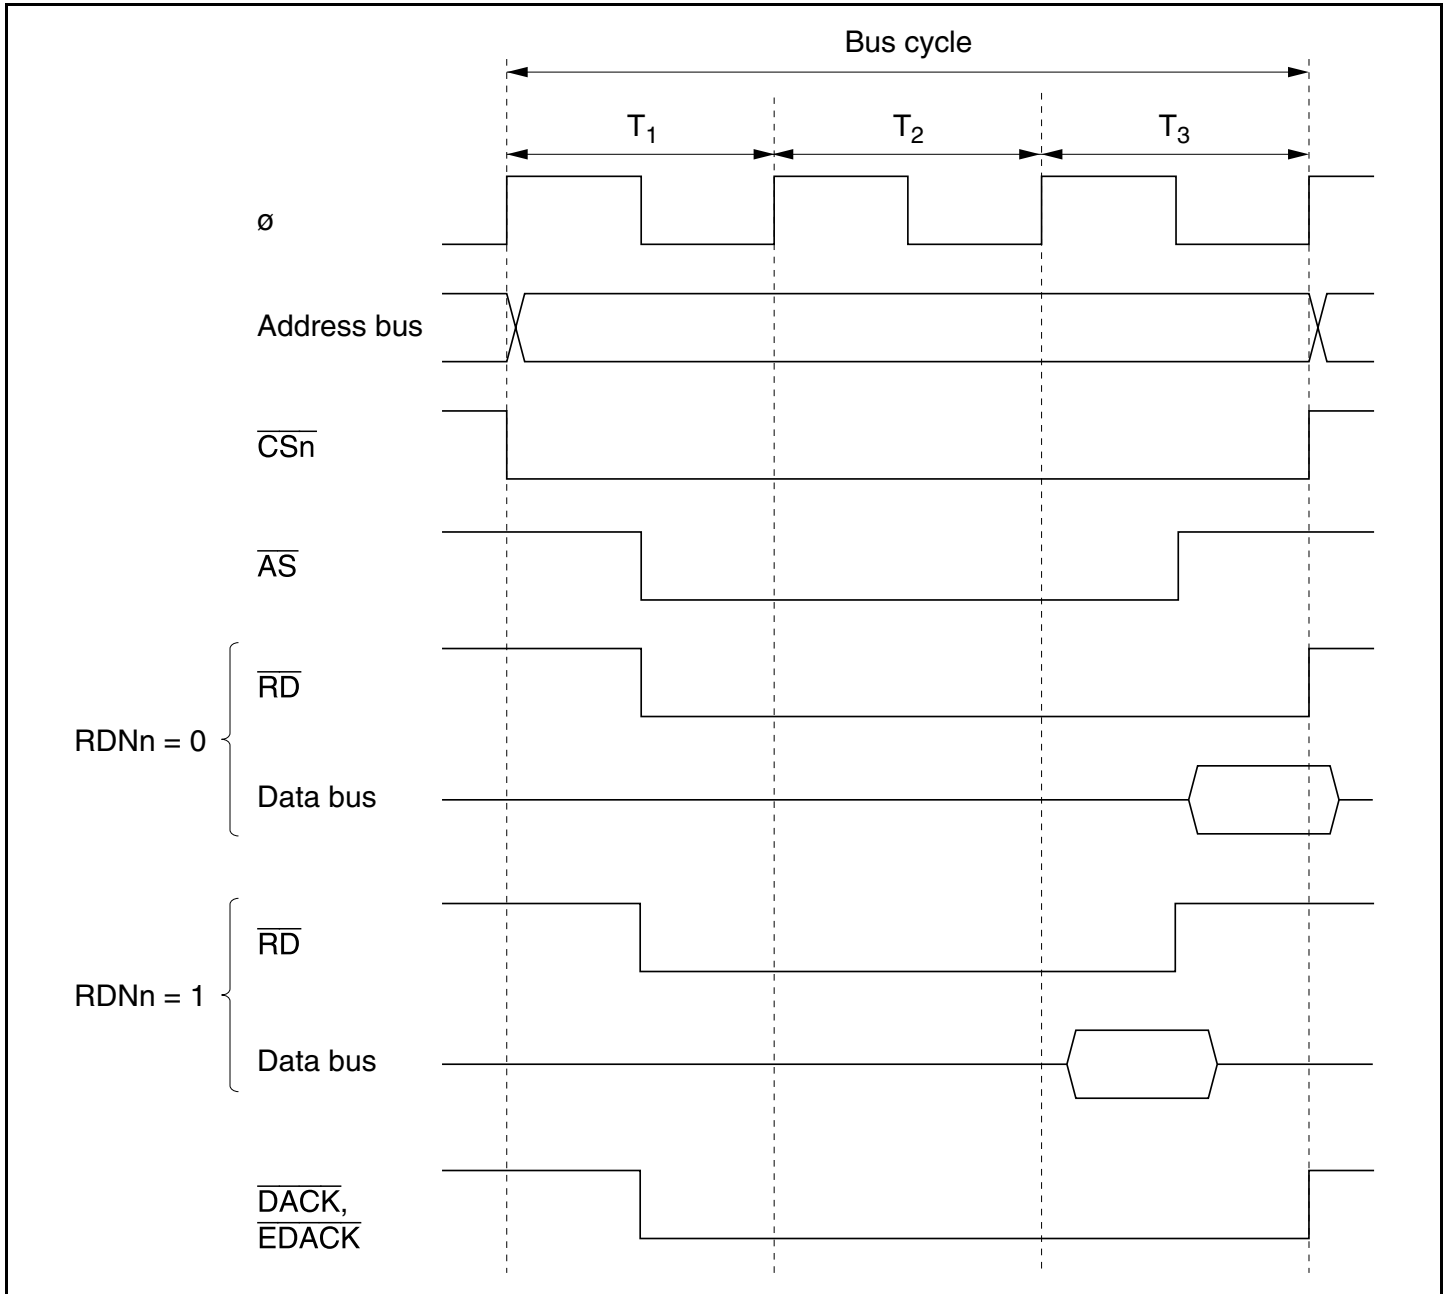

Figure 6.19 Example of Read Strobe Timing
6.5.5 Read Strobe (RD) Timing
The read strobe (RD) timing can be changed for individual areas by setting bits RDN7 to RDN0 to 1 in RDNCR. Figure 6.19 shows an example of the timing when the read strobe timing is changed in basic bus 3-state access space.